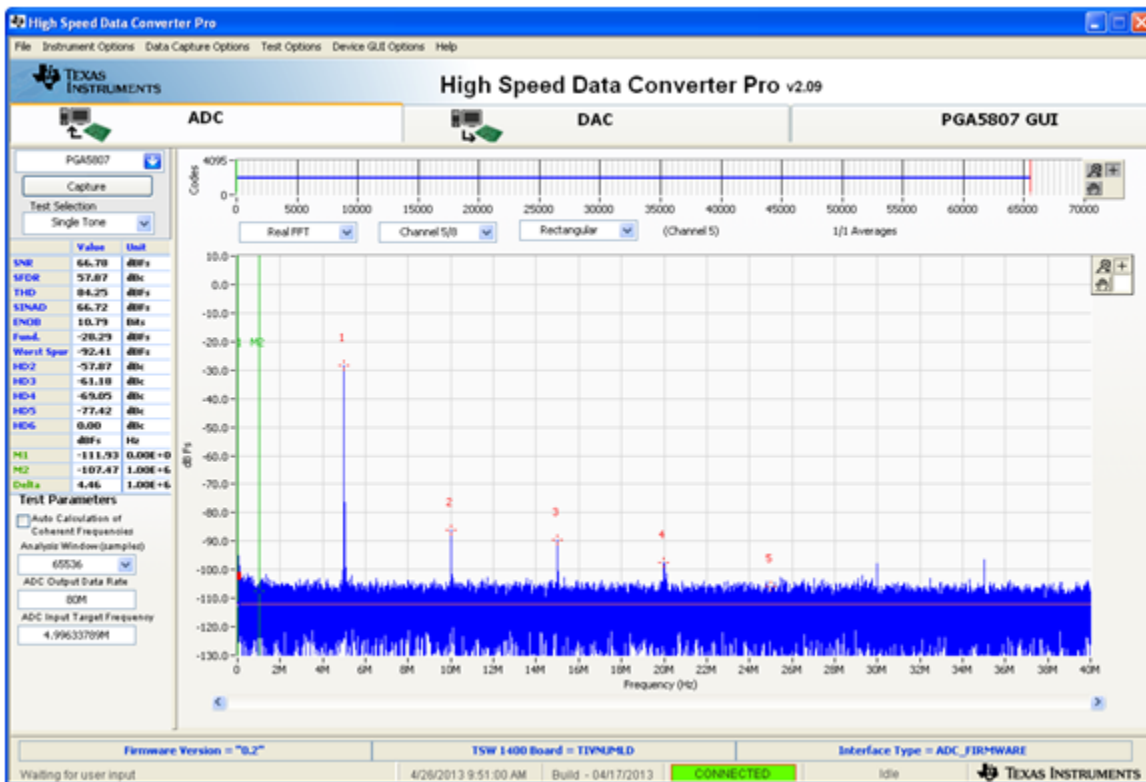

Figure 51. PGA5807A + ADS5296A Gain Test Capture 4
- Click on the *ADC* tab and press the *Capture* button to see the result shown in Figure 51. Again, take the difference in the *Fund.* value shown here to previous capture. This difference should equal the difference in **GAIN[x]** value that was set, or 18dB.